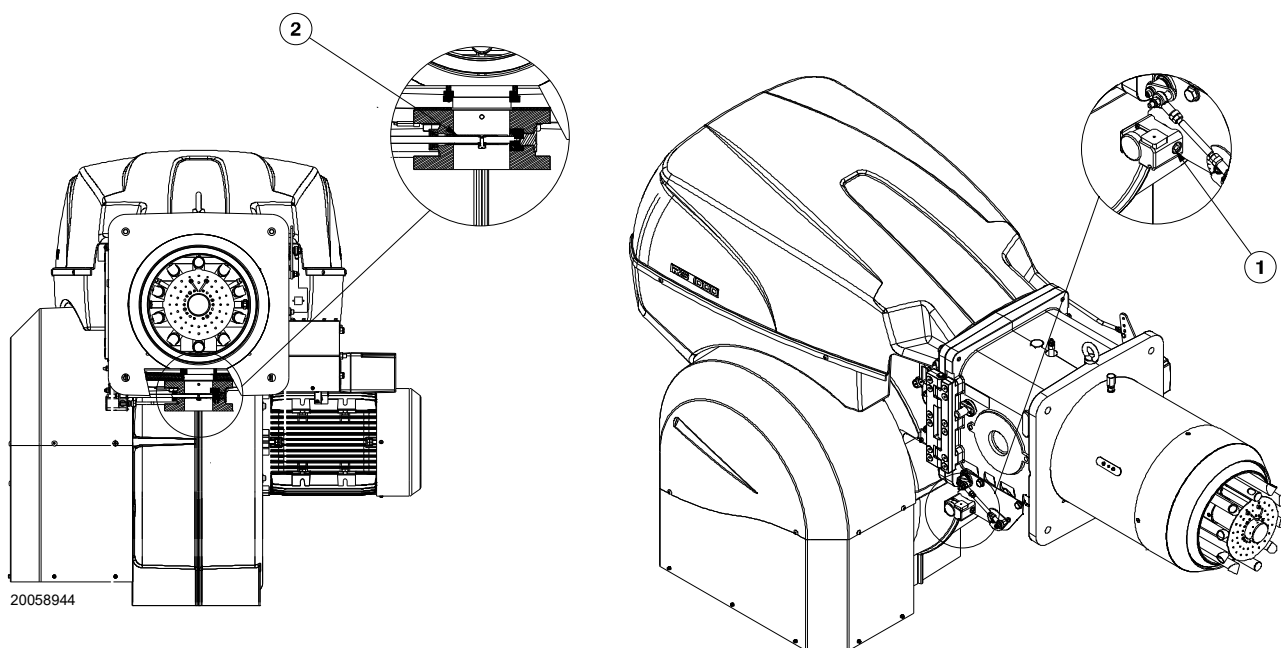

Fig. 19
Gas pressure measured at the test point 1)(Fig. 19), with:
Pressure loss at gas butterfly valve 2)(Fig. 19) with maximum opening: 90°.
- Subtract the combustion chamber pressure from the gas pressure measured at test point 1)(Fig. 19).
Gas pressure at test point 1)(Fig. 19) = 41.9 mbar
To calculate the required gas pressure at test point 1)(Fig. 19), set the maximum modulating output required from the burner operation:
- Read, on the right (column 1), the pressure at the test point 1)(Fig. 19).
Pressure required at test point 1)(Fig. 19).